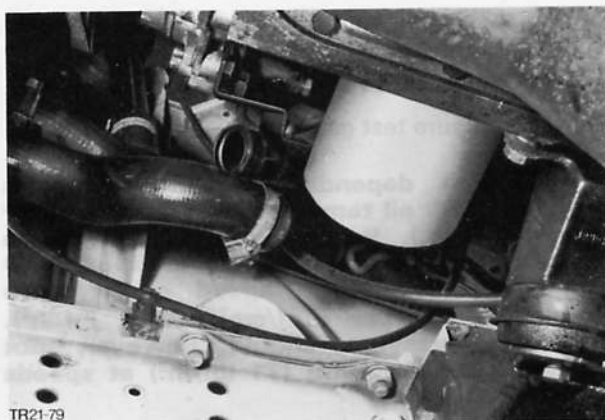

Fig. 13. Drain coolant
3. Drain coolant into tray, disconnecting lower radiator hose from water neck, Fig. 13, and upper hose from thermostat water neck and remove.